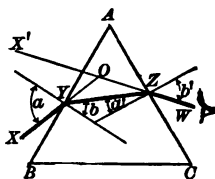

FIG. 414. — Refraction of light by a prism.
**443. Refraction by a prism.** When a ray  $XY$  enters one side of a prism ( $ABC$ , in figure 414), it is bent in the direction  $YZ$ , and on emerging, it is again bent in the direction  $ZW$ . Thus the ray  $XO$  is bent out of its original course to  $X'W$ . The total change of direction is measured by the angle  $XOX'$ , called the **angle of deviation**. Any substance which has two plane refracting surfaces inclined to each other is a **prism**.